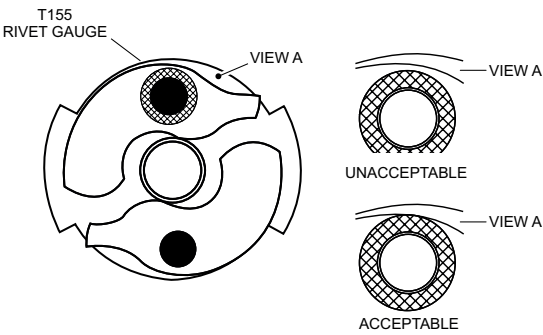

Figure 3.3.4A
- 7. Install the T-155 Rivet Gauge over the rivet head. (See Figure 3.3.4A.)
- 10. If the edge of the pawl is visible beyond or can be felt to extend beyond the edge of the T-155 Rivet Gauge, replace the coupling. (See Figure 3.3.4A)